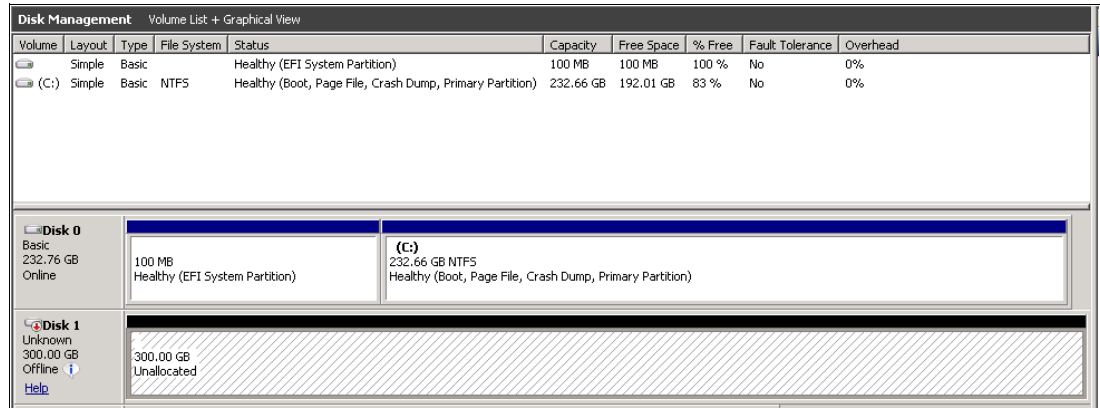

Figure 5-37 Windows Disk Management
5. Open the Windows Disk Management window (as shown in Figure 5-37) by clicking **Start** → **Run**, enter `diskmgmt.msc`, and click **OK**.